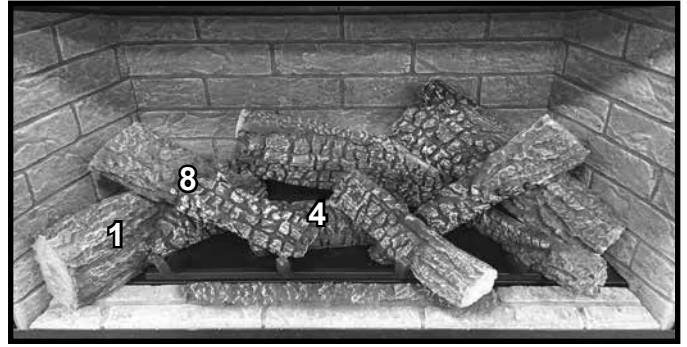

Figure 37. Log #8 Installed.
**LOG #8:** Notch on burnout end of log #8 rests on grate tine, bark end rests on notch of log #1. See Figure 37.